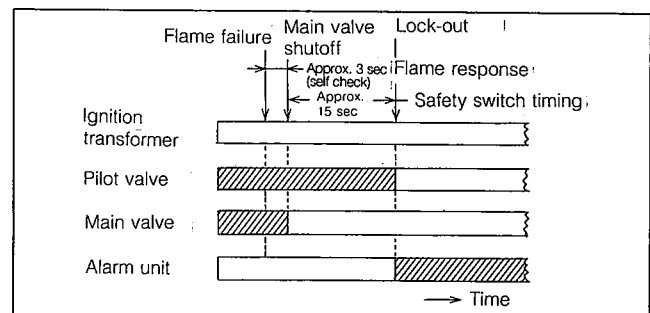

Fig. 13 Flame Failure (in gas-fired system)
#### (3) Flame Failure during Combustion (Refer to Fig. 13)